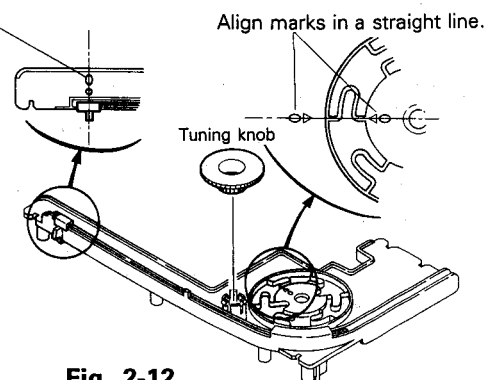

Fig. 2-12
• **Reassembly of tuner section** (Fig. 2-12)